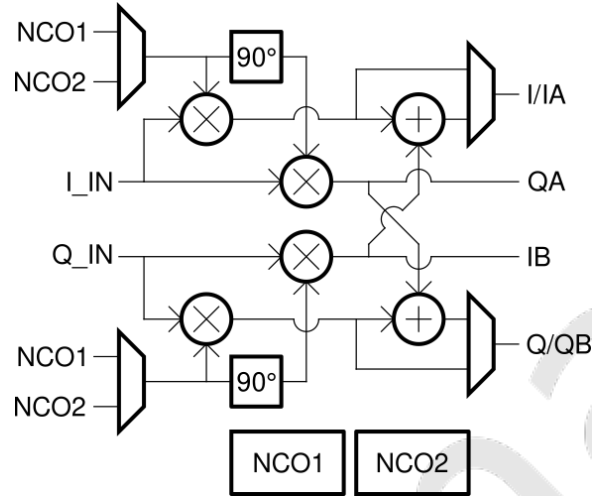

Figure 30: SD1150 DDC.
Figure 30 shows the block diagram the DDC. It consists of two numerically controlled oscillators (NCOs), digital multipliers, adders, and multiplexers. It can be programmed for two modes of operation. Mode 1 provides two independent paths with a real input and a complex (IQ) output. Mode 2 is used when the two ADCs operate as an IQ pair. It accepts IQ input and